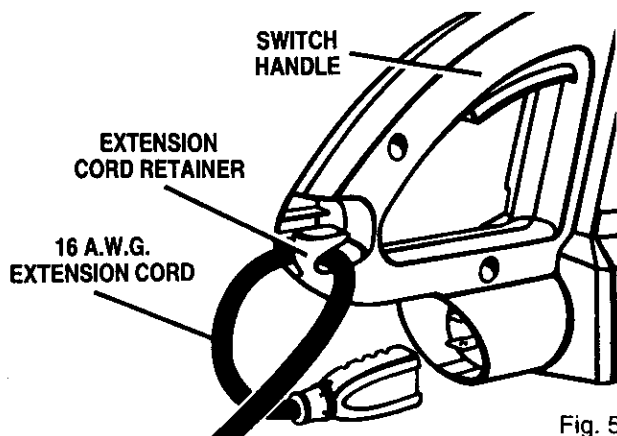

Fig. 5
- (1) Use the extension cord retainer as shown in Figure 5, or
See Figure 5.
An extension cord retainer has been provided to prevent extension cord from becoming disconnected from your trimmer during use. It is molded into the switch handle of your hedge trimmer. Plug extension cord into plug recess below switch handle, then snugly fit cord into retainer as shown in Figure 5.